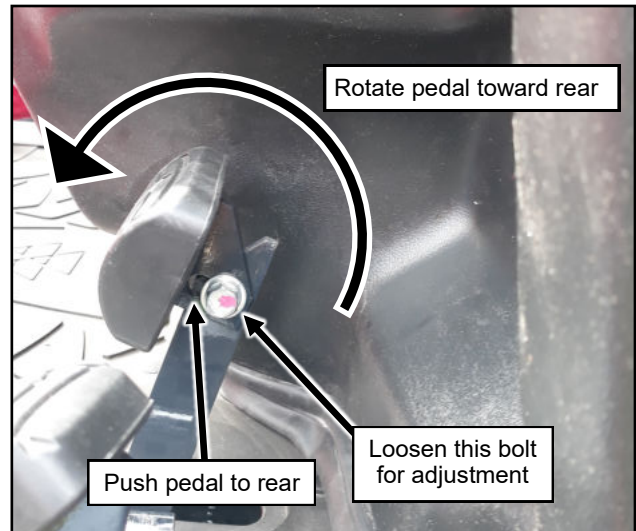

Fig. 1.9 (Adjust Accelerator Pedal)
- 1.9 Per Figure 1.9, loosen the bolt holding the accelerator pedal to the lever.
NOTE: GC1725M Accelerator pedal shown in Figures 1.9 and 1.10. Adjustment procedure is identical for GC1723E.